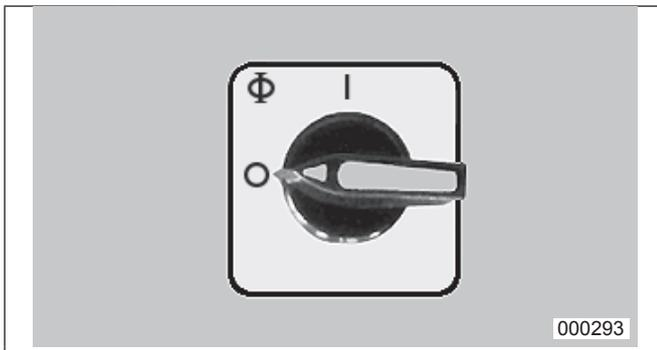
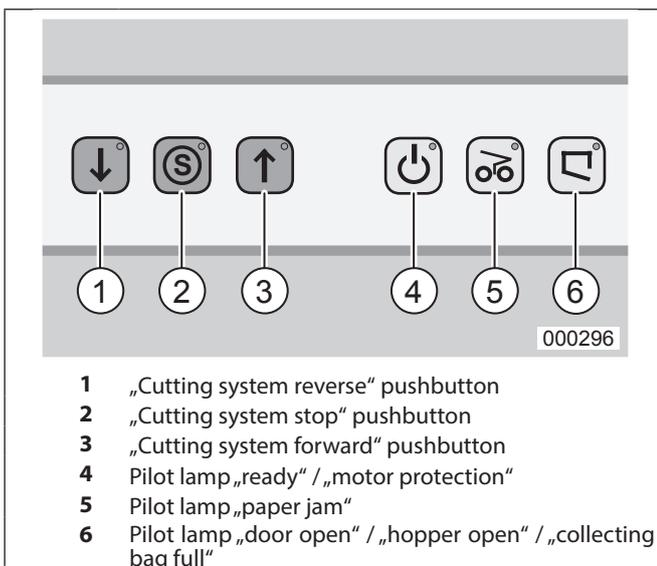

fig. 2 Operating element (Emergency-stop)
fig. 3 Operating elements foil
1. Move the main switch (fig. 2) to position „1“.
2. Press the „forward“ button (fig.3/3). The cutting system starts running.
Continuously lights when the mains switch (fig. 2) is operated.
Flashes when the motor is overloaded. The machine cannot be started during the cooling down phase of the motor. Additional the pilot lamp of the control display (fig. 3/6) lights up.
To start, switch on the unit by operating the mains switch (fig.2). The pilot lamp marked „ready for operation“ (fig.3/4), as well as the red stop-button „S“ (fig.3/2) will light to indicate that the machine is ready for operation.
2. Press the pushbutton switch „forward“ (fig. 3/3).
3. To switch the machine off press the red stop-button (fig.3/2).
1. The cutting system becomes jammed. The pilot lamp (fig.3/5) lights up.
When the collecting bag is full, the machine turns off automatically. The pilot lamp (fig. 3/6) lights up. Empty the collecting bag as follows:
Be certain that the machine is turned off overnight (mains switch (fig.2) switched to „0“).
1. Depress the reverse pushbutton (fig.3/1). The material is released.
2. Lift up the hopper. The pilot lamp „door open“ or „hopper open“ (fig.3/6) will light.
The machine is equipped with a thermally protected motor. Should this motor be overloaded, it will switch off automatically. In such case the pilot lamp „ready“ (fig.3/4) flashes. Additionally the pilot lamp of the control display (fig.3/6) lights up.
- is the mains switch (fig.2) turned on?